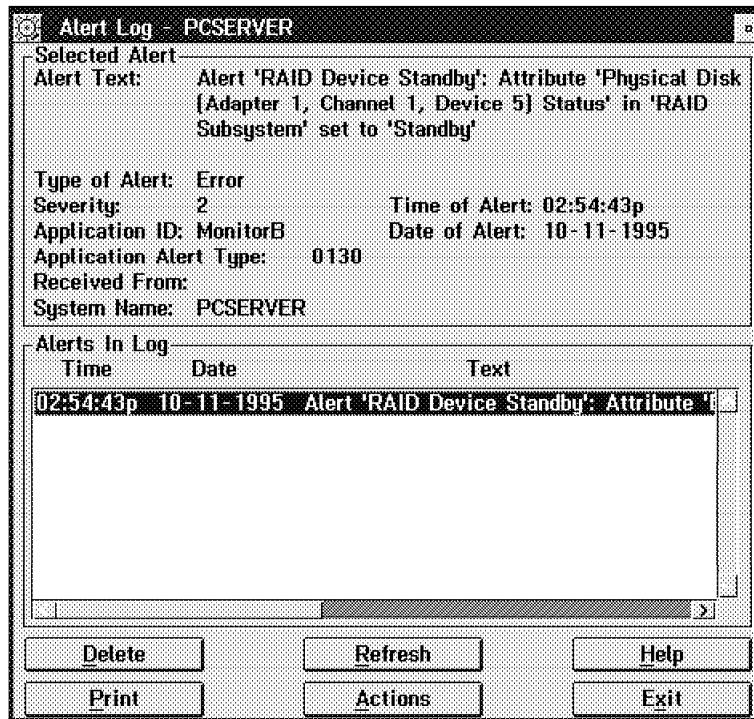

Figure 126. NetFinity New Hot Spare Drive Alert
11. NetFinity sends another alert. The NetFinity Alert Manager looks like Figure 126.